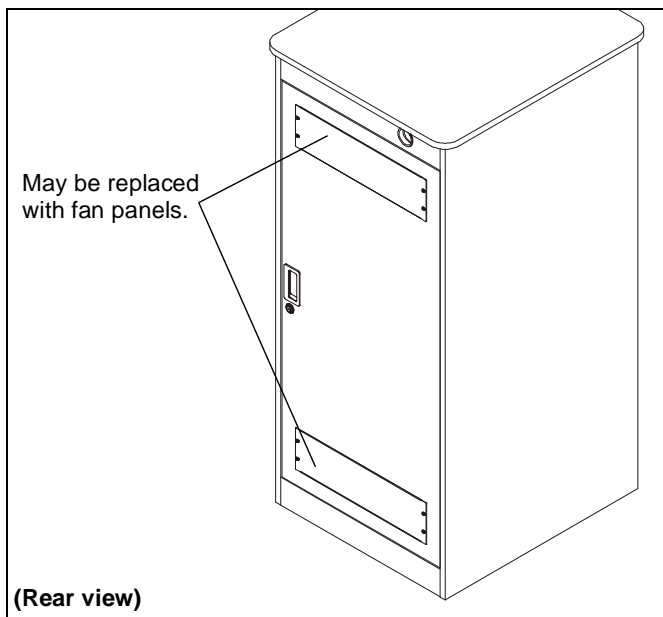

Figure 2
**NOTE:** The panels on the back door may be replaced with fan panels. Follow instructions included with the fan panel. (See Figure 2)